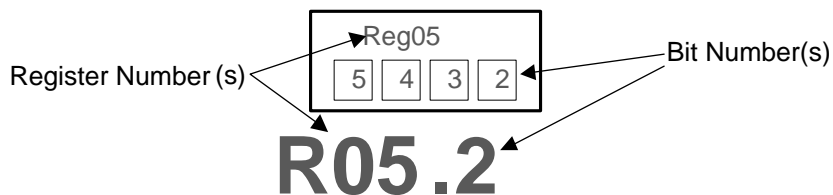

Figure 44. CDCM6208 Register Reference Format
Figure 44 shows the method this document employs to refer to an individual register bit or a grouping of register bits. If a drawing or text references an individual bit, the format is to specify the register number first and the bit number second. The CDCM6208 contains 21 registers that are 16 bits wide. The register addresses and the bit positions both begin with the number zero (0). A period separates the register address and bit address. The first bit in the register file is address 'R0.0' meaning that it is located in Register 0 and is bit position 0. The last bit in the register file is address R31.15 referring to the 16th bit of register address 31 (the 32nd register in the device)